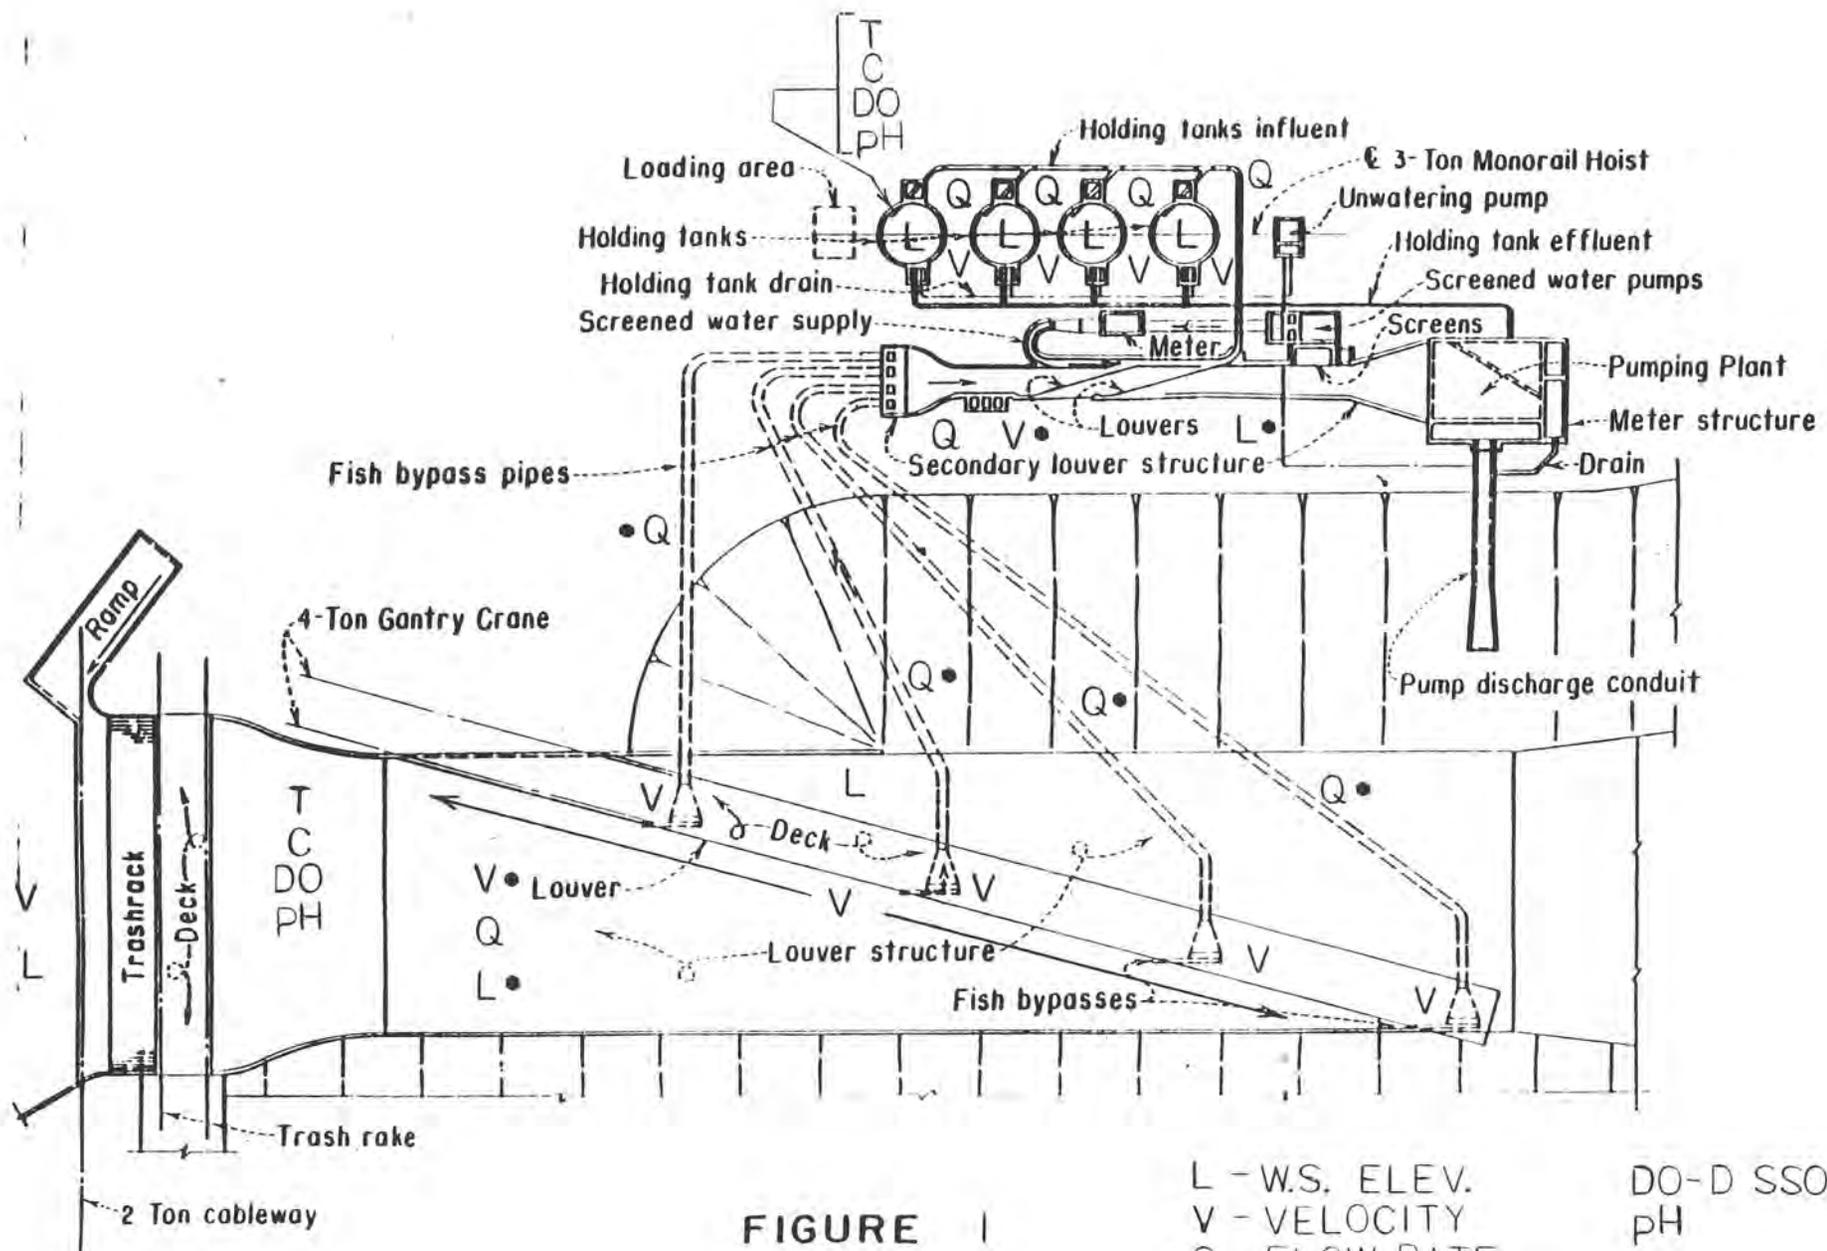

FIGURE 1
1.1.1 Water surface elevation (W.S.El.) - W.S.El. monitoring is required throughout the TFCF to determine flow depths and losses exhibited by components of the facilities. Monitoring of losses in part indicates the degree of fouling at the trashrack and louvers, and thus could be used to automate cleaning procedures. The critical locations for monitoring W.S.El. are indicated by figure 1 - Basic Plan View of TFCF and are as follows:
The monitoring plan for the TFCF consists of measuring water surface elevations (W.S.El.), open-channel and closed-conduit volumetric flowrates, flow velocities, and water quality parameters at various locations throughout the TFCF, as shown on figure 1.
figure 1. Velocity information is a critical component in the efficiency evaluation, since proper louver operation is directly dependent upon louver line and bypass velocities.
4.3 Volumetric flowrates should be monitored in the primary louver forebay, the 36-in fish bypass lines, and the holding tank pump discharge line. Again these proposed locations are identified in figure 1. Also, water quality instrumentation is required in the primary louver forebay and the fish holding tanks. The water quality parameters to be monitored are: temperature, conductivity, dissolved oxygen (DO), and pH. The remainder of this report identifies and evaluates possible instrumentation required under this monitoring plan. All instrumentation was selected with standard 4-20 mA output as an overall requirement for future automation. All indicators should be remotely located at a central panel for display; or a complete data acquisition system should be specified, which will provide a basis for configuration of the telemetry.